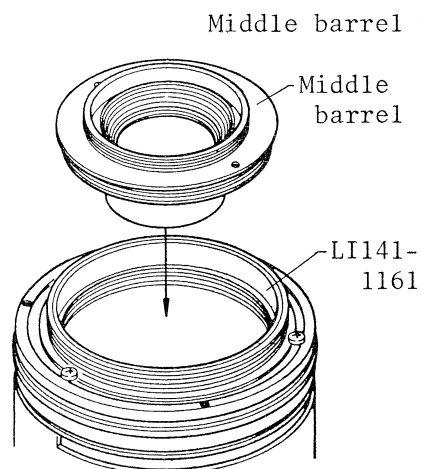

Fig.11
- 2) Screw middle barrel in LI141-1161 inner barrel as shown in Fig. 11.